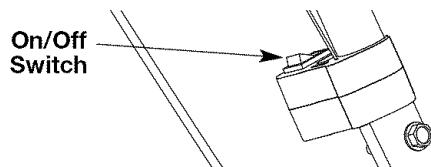

Fig. 11
NOTE: There is no need to turn the unit on. The On/Off Stop Control is in the ON (1) position at all times (Fig. 11).
2. Press and hold On/Off Stop Control in the OFF (O) position until engine comes to a complete stop (Fig. 11).